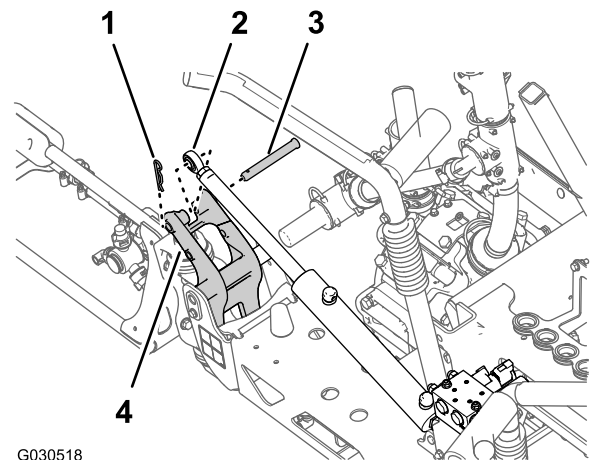

Figure 38
2. Remove the hairpin and clevis pin that secure the rod end of the lift cylinder to the pivot bracket (Figure 38).